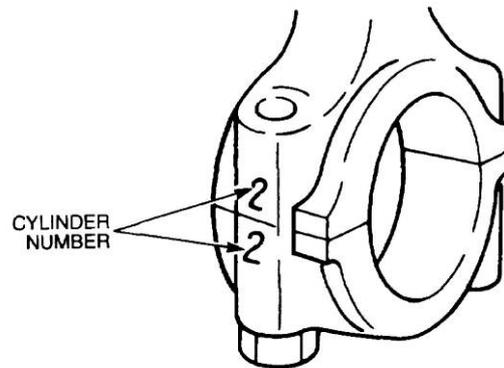
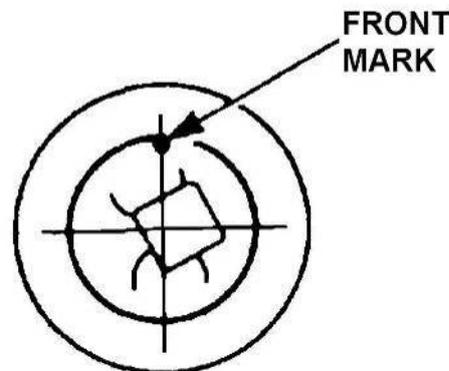

Figure 43 Connecting Rod Match Mark Location
Figure 44 Piston Front Mark Location
- p.** Using suitable personal protection equipment and mechanical aids, position a piston over the small end of a connecting rod ensuring that both the piston and connecting rod are matched with their respective cylinder. Ensure the match marks on the connecting rod (Figure 43) are positioned towards the camshaft and the Front Mark on the piston is positioned toward the front of the engine block (Figure 44).